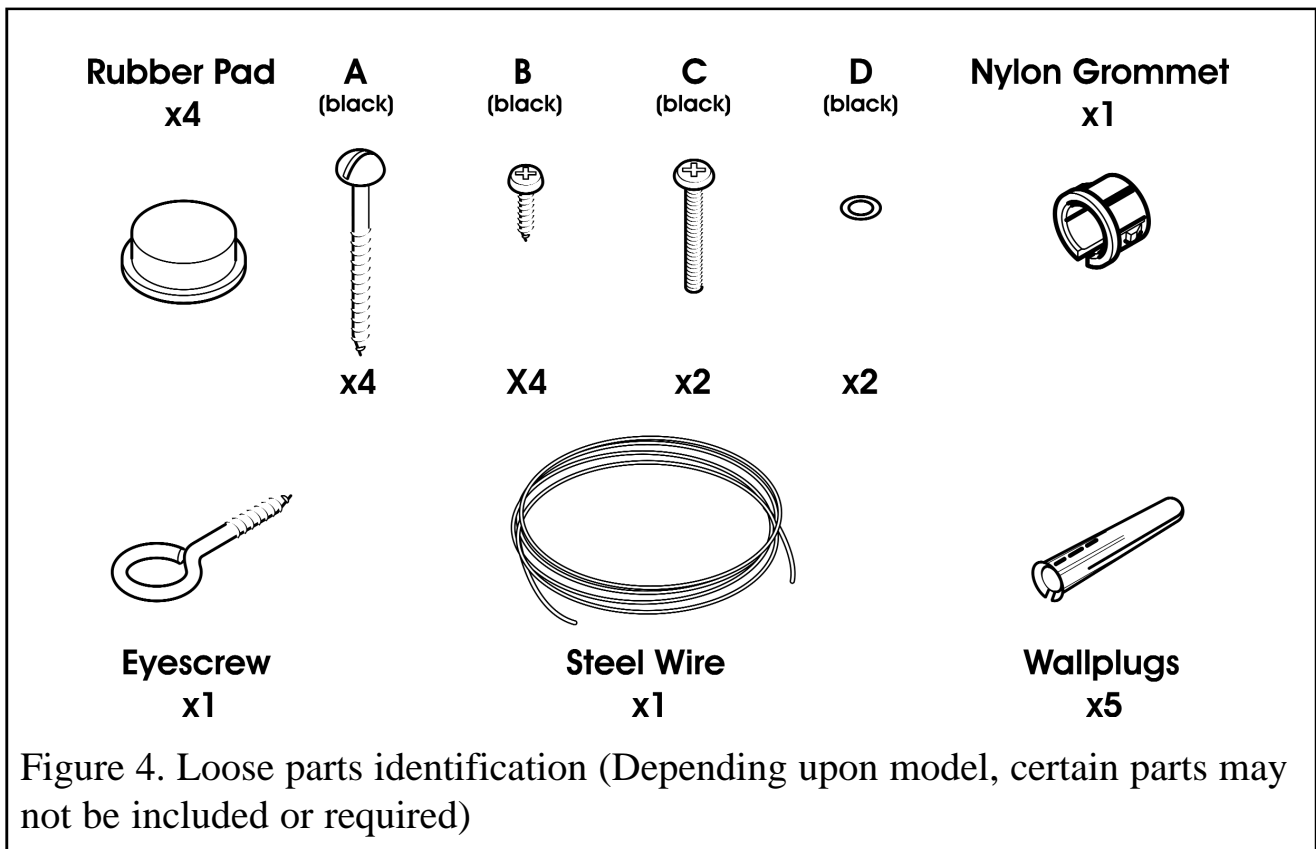

Figure 4. Loose parts identification (Depending upon model, certain parts may not be included or required)
All fixings supplied with the heater have been identified in figure 4.
6. Screw and secure the heater with two 'A' screws (See figure 4).
1. The fixing kit supplied with the heater includes a steel wire and eyescrew (See figure 4). These can be used to secure the heater to the back of a fireplace opening.